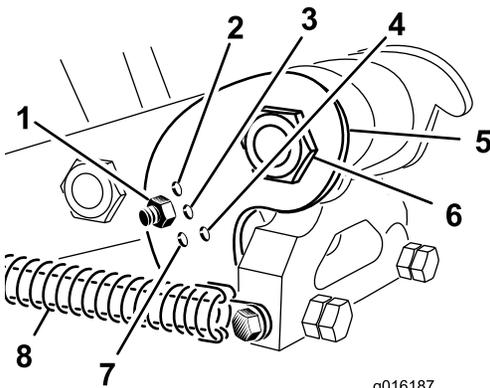

Figure 36
Set the camber bracket (Figure 36) to the correct position based on the length of tines to be used. The head stop is set to one of five predetermined positions by choosing the hole through which the adjustment rod is bolted. These holes are presets only; for instance, by using a 10 inch tine in the 12 inch position you may achieve a smoother finish; depending on the application.
- Release the spring tension to the tine head (Figure 36).
- Remove the nut and bolt in the adjustment holes in the camber bracket (Figure 36).
- Rotate the camber bracket until it is aligned with the desired hole in the arm and install the bolt and nut (Figure 36).